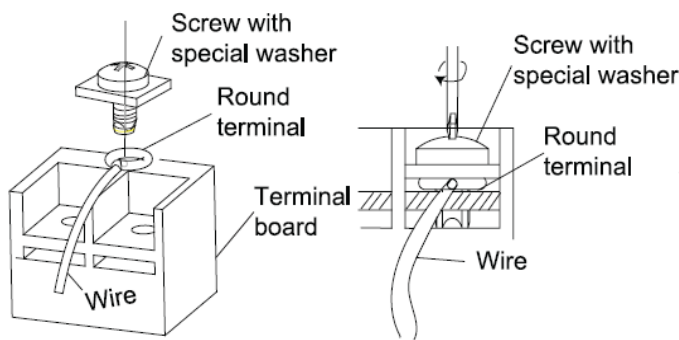

Fig. 25
- 4) Position the round terminal wire, and replace and tighten the terminal screw with a screwdriver.(Fig. 25)